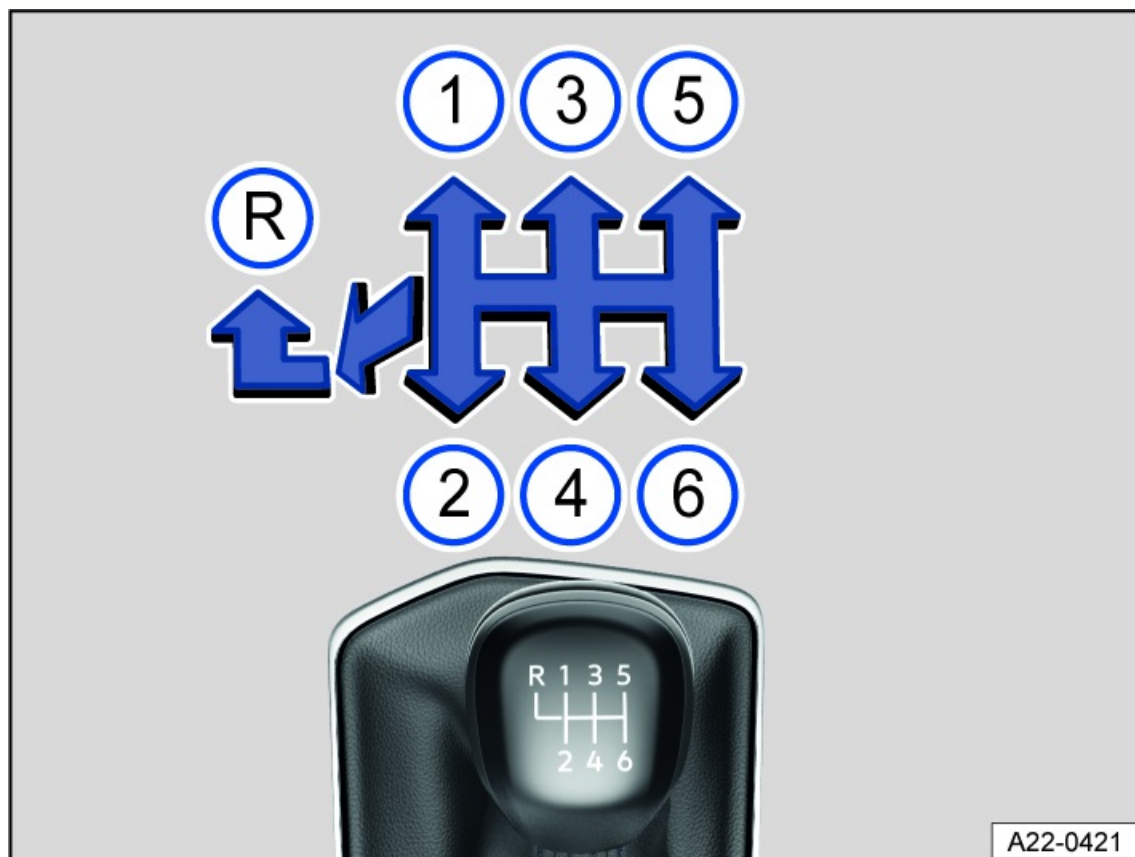

Fig. 98 Gear shift pattern for 6-speed manual transmission. Your vehicle may be equipped with a 5-speed manual transmission.
2. Move the gearshift lever into the preferred position *fig. 98* ①.
3. Push the gearshift lever all the way to the left and then forward into the reverse gear position *fig. 98* □.